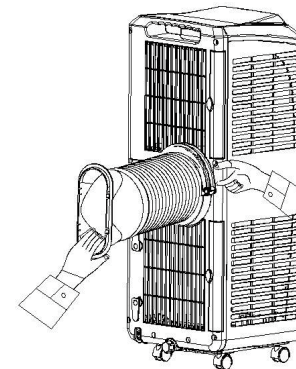

Figure 3
- 2) Hold the end handle of the C shape buckle of the heat exhaust hose with the right hand and the heat exhaust hose short connector with the left hand, put one end of the heat exhaust hose that is pulled apart onto the snap of the lower air duct bottom, press the C shape buckle of the heat exhaust hose with the left hand by force so that the C shape buckle of the heat exhaust hose clips the snap joint of the back shell (as shown in Figure 3)